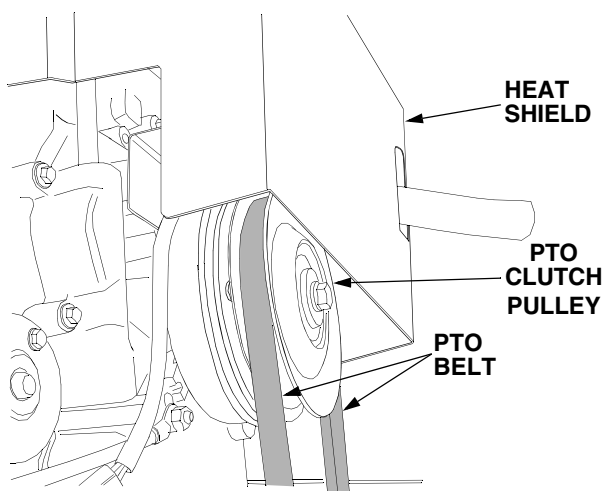

Figure 37
4. Open the tractor hood. From the front of the tractor, lift the two sides of the belt up and maneuver the PTO belt over and off the front of the PTO clutch pulley on the front of the engine. Lower the belt down between the front of the PTO pulley and the engine heat shield (See Figure 37).